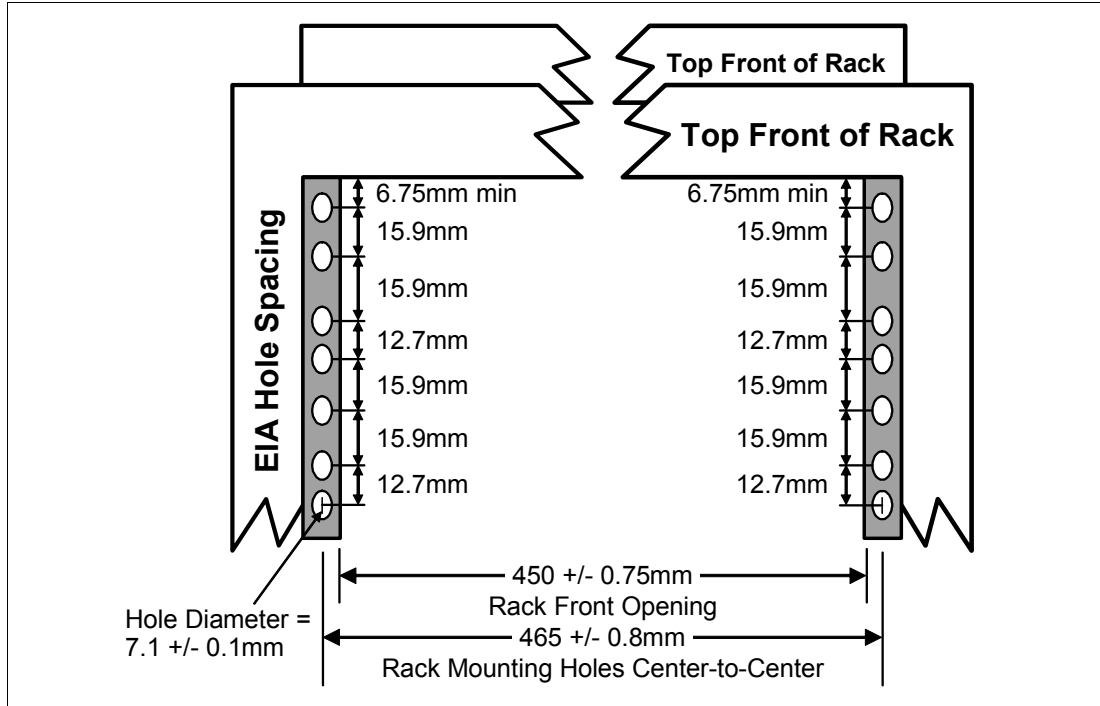

Figure 1-6 Rack specification dimensions, top front view
- ▶ The vertical distance between the mounting holes must consist of sets of three holes spaced (from bottom to top) 15.9 mm (0.625 in.), 15.9 mm (0.625 in.), and 12.67 mm (0.5 in.) on center, making each three-hole set of vertical hole spacing 44.45 mm (1.75 in.) apart on center. Rail-mounting holes must be 7.1 mm ± 0.1 mm (0.28 in. ± 0.004 in.) in diameter. See Figure 1-6 for the top front specification dimensions.